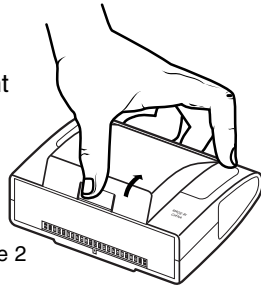

figure 2
1. Open the battery compartment as shown. (figure 2)